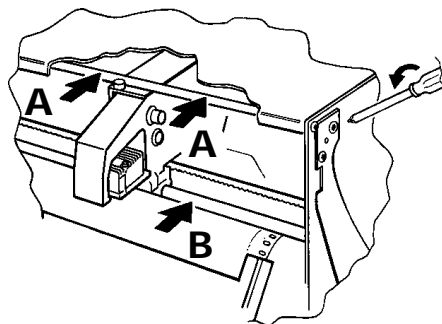

Figure 6.1 Reaction Bar location
- Every six months, the print head reaction bar (A in figure 6.1) is cleaned of paper dust, and then smeared with a small amount of a light lubricant, applied using a lint-free cloth.
- Every six months, the reaction bar (A in figure 6.1) securing screws (one at each end) are undone approximately half a turn, the bar rotated a few degrees, and the securing screws re-tightened.
On no account should the print head guide bar (B in figure 6.1) be lubricated, as to do so will damage the 'oilite' bearing in the printhead carriage.